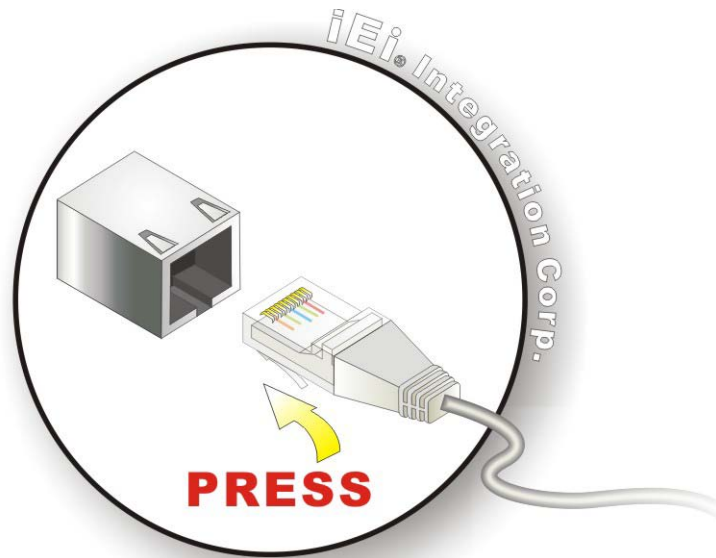

Figure 3-18: LAN Connection
Step 2: Align the connectors. Align the RJ-45 connector on the LAN cable with one of the RJ-45 connectors on the TANK-801. See **Figure 3-18**.